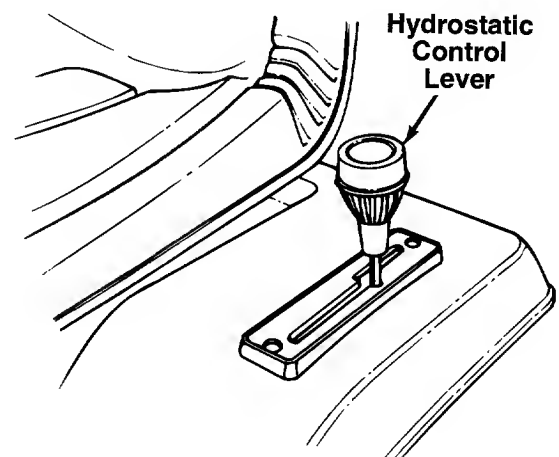

FIGURE 18.
The hydrostatic control lever is located on top of the fender on the left side of the tractor. This single control lever, connected to the hydrostatic transmission, controls both the speed and direction of the tractor. Infinite speed control is achieved by moving the control lever forward or backward. The farther forward or backward you move the control lever, the faster you will travel. Pulling the control lever into neutral (N) area will stop the tractor. To increase rear wheel torque (pulling power), move the control lever towards neutral (N) position. The lawn tractor responds similar to shifting to a lower gear with a gear type transmission. See figure 18.